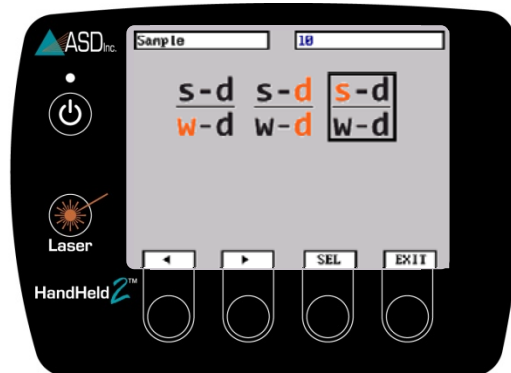

Figure 2-22: Navigate to White, Dark, or Sample
- Step 2 Navigate to the desirable icon and press the SEL button (Figure 2-22). In the quotients below, **w** for white reference averaging count, **d** for dark current averaging count, or **s** for sample averaging count s is sample, d is dark current, and w is white reference. The quotients are menu labels which demonstrate the calculation of each of the spectrum averages. For example, in order to compute the white reference averaging count, the equation is (sample minus dark current) divided by (white reference minus dark current). To simplify this, the letter representing the proper spectrum averaging count is highlighted in red, making it clear that the first equation refers to the white reference averaging count, etc.